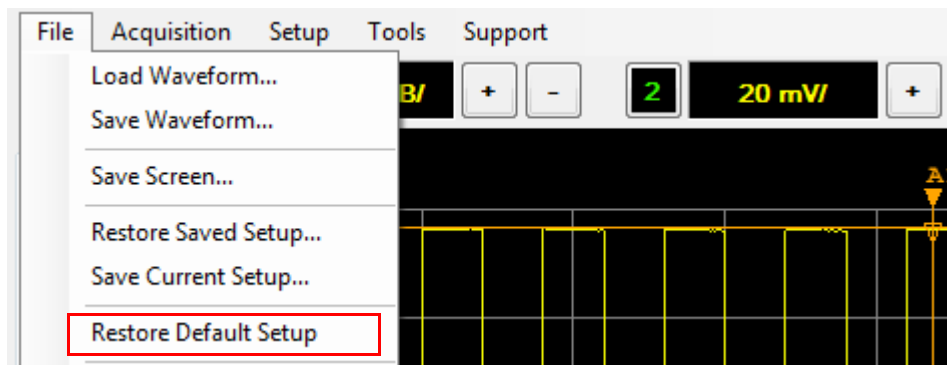

Figure 2-104 Restore Default Setup selection in the File menu
- 1 Select **File > Restore Default Setup** on the toolbar to restore the 8990B to its factory default settings as shown in Figure 2-104.